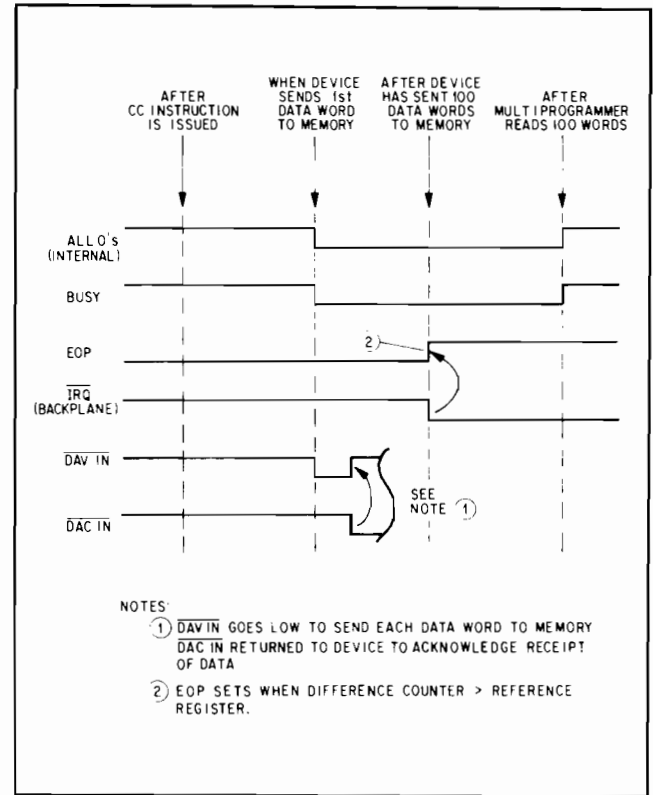

Figure 4-6. FIFO Input, Memory Timing Signals
- c. The write counter is now one greater than the read counter. The differential counter becomes non zero, and the ALL 0's line goes low. BUSY to the device goes high (see Figure 4-6).